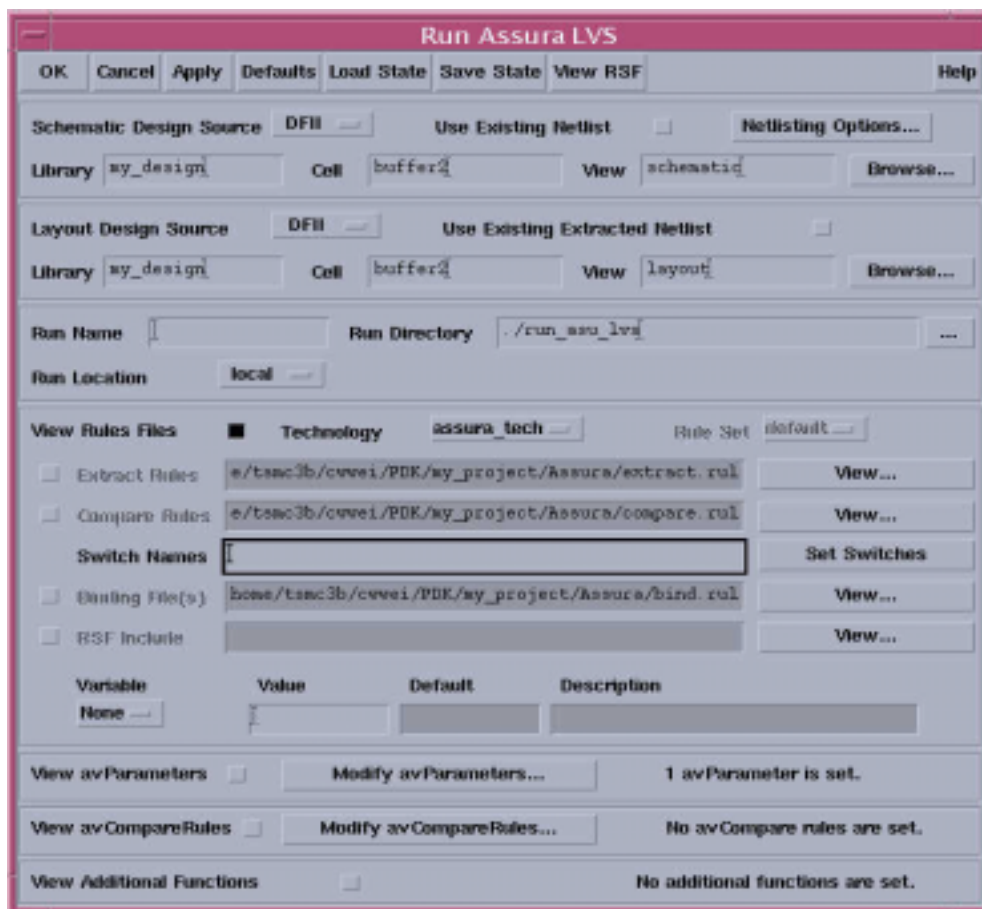

FIG. 24 Assura LVS setup window
2. Fill in the “Assura run directory” and select the “Technology” field to “assura\_tech” (Fig. 24) in Assura LVS window. You can also set the Assura LVS switches and other parameters if needed.